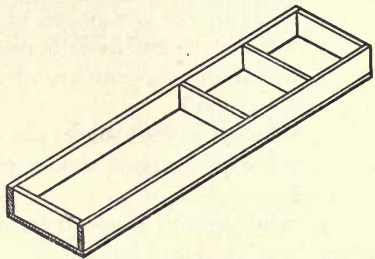

FIG. 127.—TRAY OF TOOL CHEST.
10. **Making trays.** — The two trays are for the purpose of holding the smaller tools, such as bits, files, scrapers, and screwdrivers. They are partitioned off as shown in Fig. 127. The top tray should be 2' 4 $\frac{1}{2}$ " long and 8" wide, and 3" deep (outside measurements), and made of soft wood  $\frac{1}{2}$ " thick. The lower tray should be 1" shorter and the same width and depth. Nail on the sides to the ends and the partitions, then nail on the bottom.